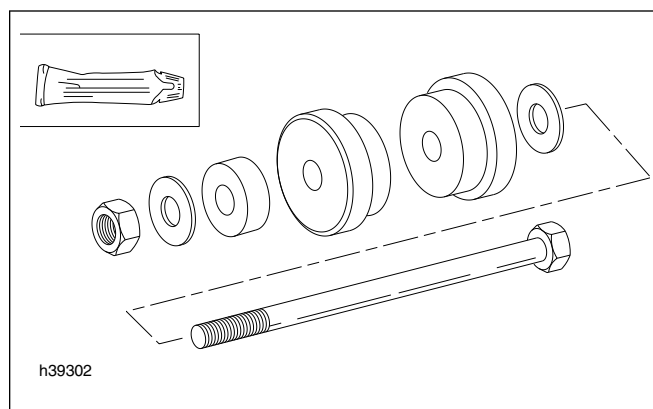

Figure 2-151. Steering Head Bearing Race Installer (HD-39302)
2. See Figure 2-151. Assemble STEERING HEAD BEARING RACE INSTALLER (HD-39302) and bearing races on tool's draw down bolt through steering head. Orient races so lettered edges are at bottom of steering head bore in steering head.